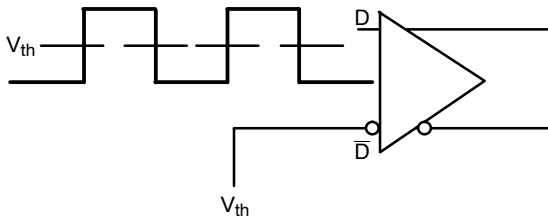

Figure 15. Differential Input Driven Single-Ended
**DIFFERENTIAL INPUT DRIVEN SINGLE-ENDED** (Figures 15 and 17)